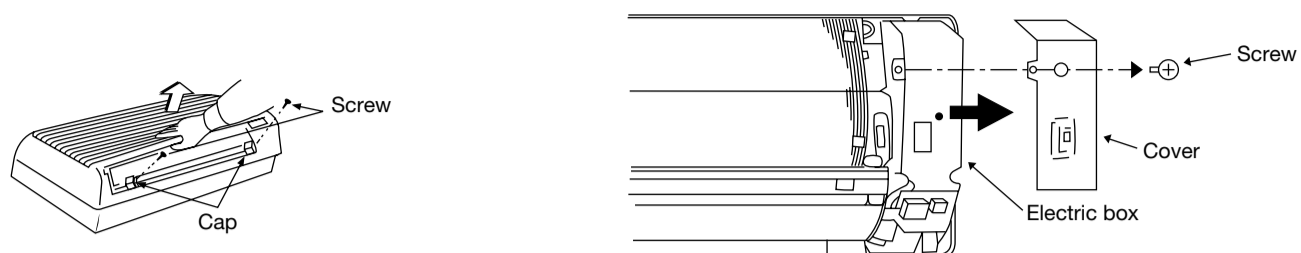

Fig. 3-12
(1) Remove the front cover
- Remove the cap and screw as shown in Fig. 3-12.